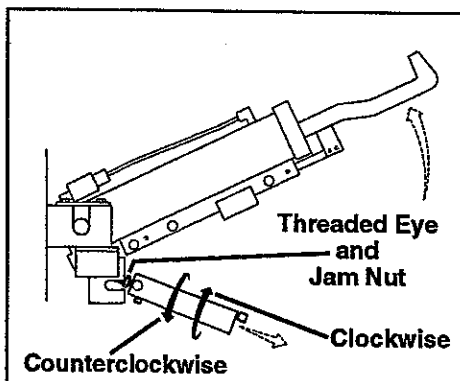

Fig. 14. Adjusting Storage Height
- I. While holding the hook cylinder in the up position, loosen the jam nut on the threaded eye. See Figure 14. If the storage height is greater than 26", turn the hold down cylinder counterclockwise. If the storage height is less than 26", turn the hold down cylinder clockwise. One full turn of hold down cylinder results in 1/2" adjustment at tip of hook.